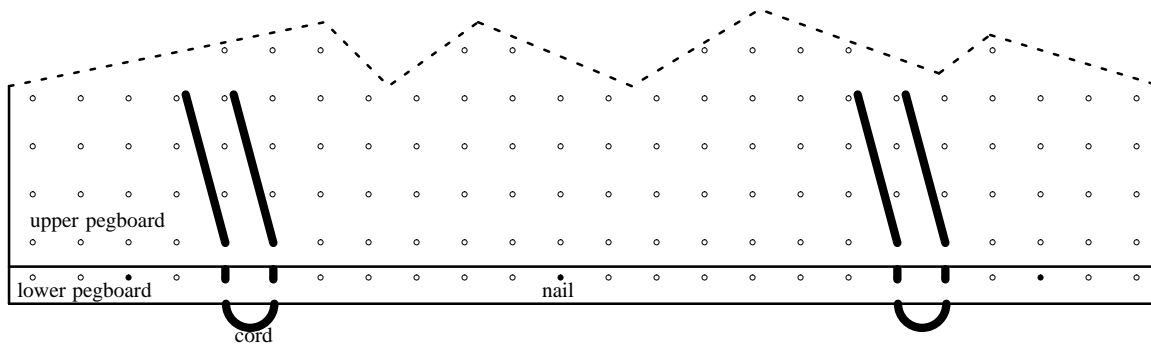

Figure 13
- d. Count 5 holes over from one corner along the short edge of the bottom piece of pegboard. Put one end of a piece of cord up from underneath the piece through this hole; put the other end up from underneath through the next hole over (#6). Put the two ends of the cord through the top piece in the same way. Repeat at the other corner near you (see figure 13).